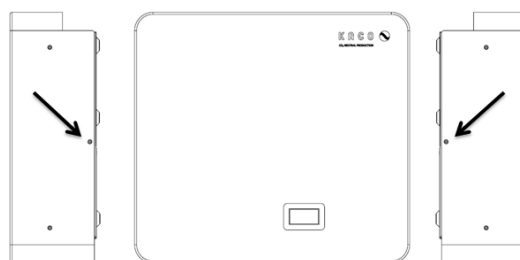

Fig. 6: Position of the locking screws
6. Remove the wall bracket from the back of the device by loosening and removing the locking screws according to Fig. 6 [~~X~~T\_TX20/  1.5Nm].